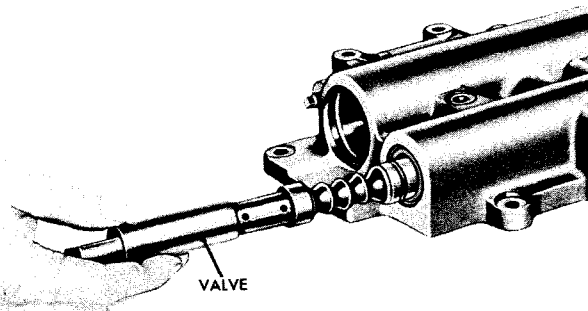

Fig XIV-12. Removing or installing range selector valve
(8) Remove the range selector valve (fig XIV-12).
(5) Push the ball and the spring down with a soft drift and install the range selector valve. Refer to figure XIV-12.